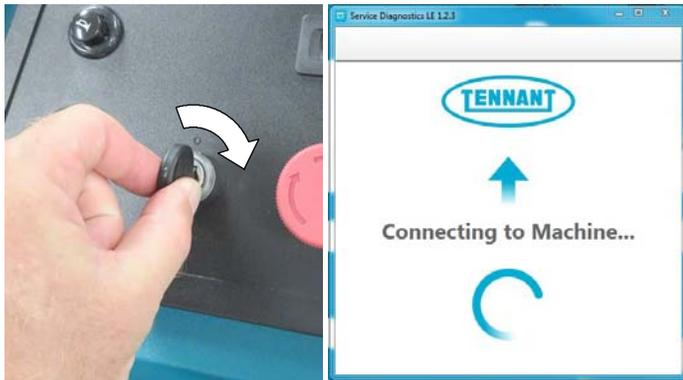

Fig. 5
3. Connect the supplied USB cable to the machine's USB port, located near battery charger, and to the computer (Figure 5).
5. Turn the key switch to the on position. The application software will then connect to the machine (Figure 5). If the application remains on the "Connecting to Machine" screen for an extended period, cycle the key or reconnect the USB cord. If it still fails to connect, restart software or computer.